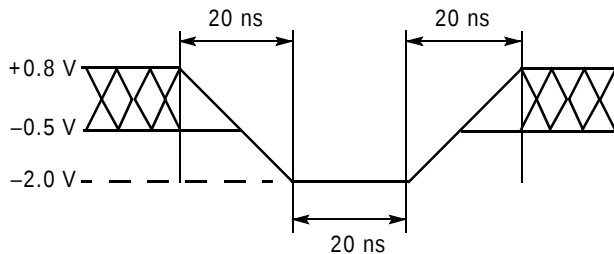
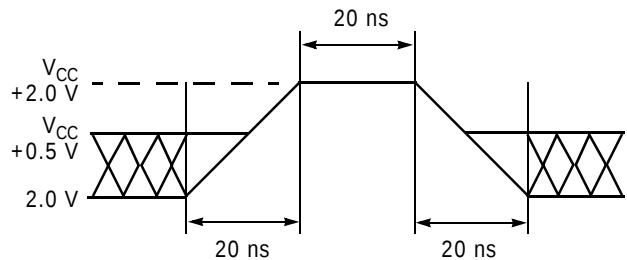

Figure 9. Maximum Negative Overshoot Waveform
Figure 10. Maximum Positive Overshoot Waveform
1. Minimum DC voltage on input or I/Os is -0.5 V . During voltage transitions, inputs or I/Os may overshoot V_{SS} to -2.0 V for periods of up to 20 ns. See Figure 9. Maximum DC voltage on input or I/Os is $V_{CC} + 0.5\text{ V}$. During voltage transitions, input or I/O pins may overshoot to $V_{CC} + 2.0\text{ V}$ for periods up to 20 ns. See Figure 10.
2. Minimum DC input voltage on pins A9, OE#, ACC, and RESET# is -0.5 V . During voltage transitions, A9, OE#, ACC, and RESET# may overshoot V_{SS} to -2.0 V for periods of up to 20 ns. See Figure 9. Maximum DC input voltage on pin A9, OE#, ACC, and RESET# is $+12.5\text{ V}$ which may overshoot to $+14.0\text{ V}$ for periods up to 20 ns.